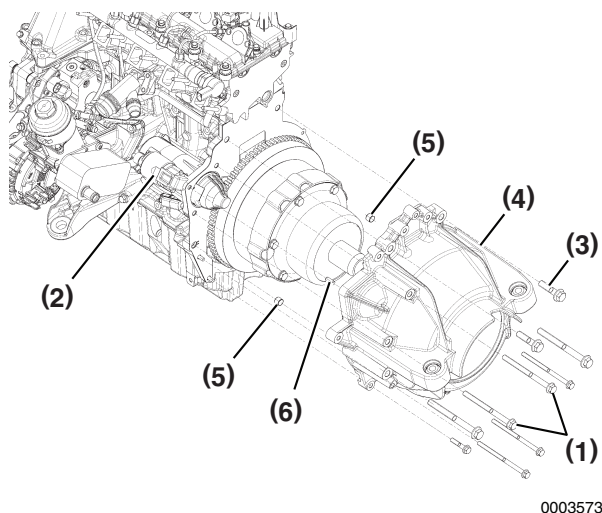
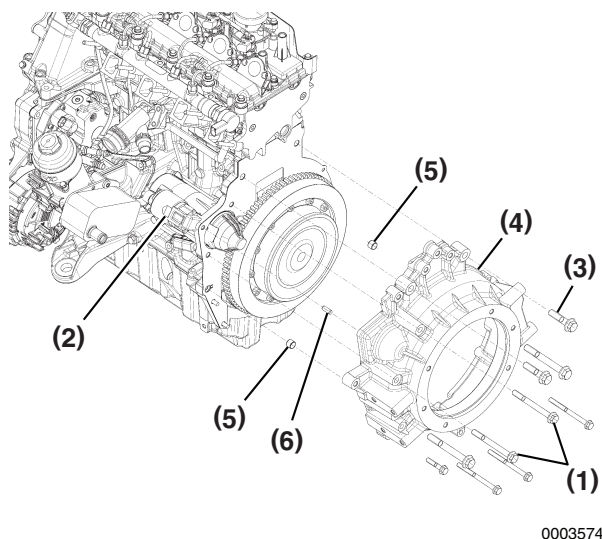

Figure 5-63
Figure 5-64
3. Remove two bolts (**Figure 5-63, (1)** and **Figure 5-64 (1)**) and remove starter motor (**Figure 5-63, (2)** and **Figure 5-64 (2)**). See *Remove and Install Starter Motor* on page 10-6.
5. Remove 11 bolts (**Figure 5-63, (3)** and **Figure 5-64 (3)**). Remove housing (**Figure 5-63, (4)** and **Figure 5-64 (4)**). Use care not to lose the two alignment sleeves (**Figure 5-63, (5)** and **Figure 5-64 (5)**) and the dowel (**Figure 5-63, (6)** and **Figure 5-64 (6)**).